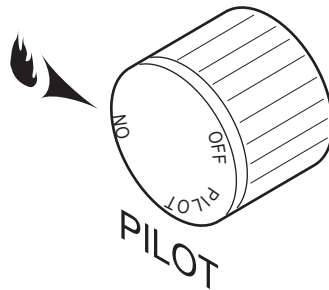

Figure 34 - On Position
Depress and turn the knob counterclockwise  to the "ON" position. *Figure 34*. It will take less than four (4) seconds for the burner to ignite.